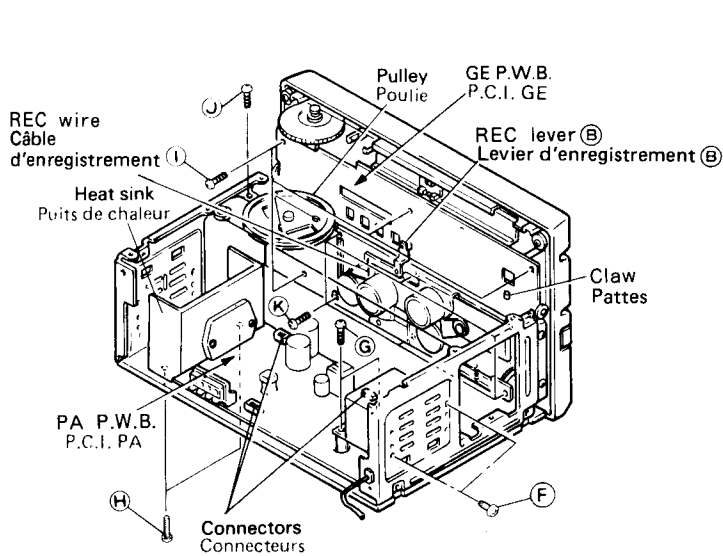

Fig. 3
- 4. Removing the PA P.W.B. (Fig. 3)**
- 5. Removing the GE P.W.B. (Fig. 3)**
- 6. Removing the Cassette Chassis (Fig. 3)**
4. Retrait de la P.C.I. PA (Fig. 3)
5. Retrait de la P.C.I. GE (Fig. 3)
6. Retrait du coffret (Fig. 3)